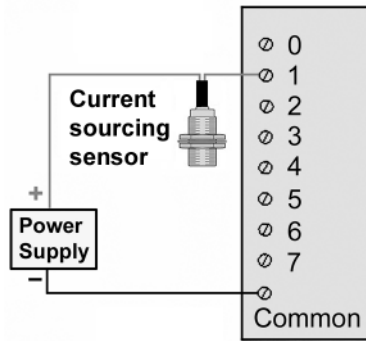

Figure 2-7 Current sourcing sensor for question 29.
29. The current sourcing sensor shown in Figure 2-7